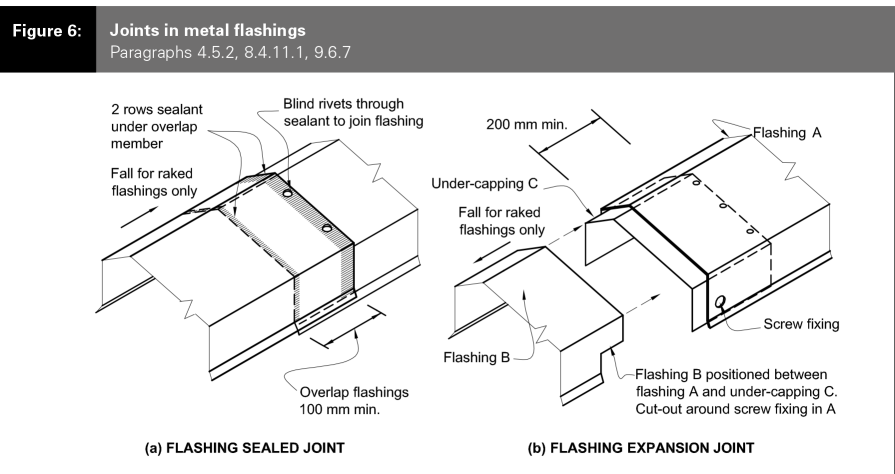

Figure 1: Building Code E2/AS1 Figure 6 metal flashing detail.
- Having overlapping joints. Bevel-back weatherboards and board and batten accommodate movement in the building and the board widths because of the laps. The E2/AS1 Figure 6 metal flashing detail (see Figure 1) allows movement at the lapped and sealed joint in the flashing and with the overlap to the cladding.